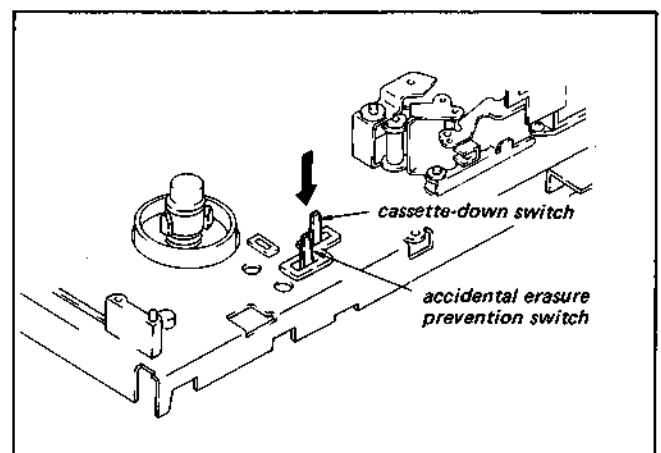

Fig. 1-12. How to put the recorder in recording mode with the FL cassette compartment removed
- 1) Thread by the procedure in 1-11-1, then press the accidental erasure prevention switch shown in Fig. 1-12.